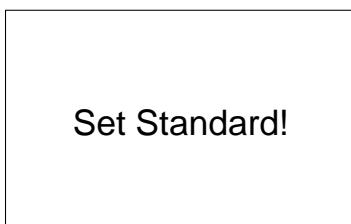

Figure 4-1 Set up grid standard
- When the inverter completes “sys checking”, LCD shows the screen as Figure 4-1 below. Press ENTER to the standard selection interface, as shown in Figure 4-2.